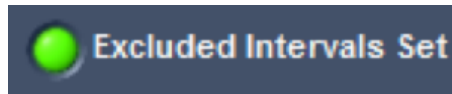

Figure 44- Exclude Intervals Indicator
*The indicator next to the exclude intervals button on the sample information window should now be green (Figure 44).*